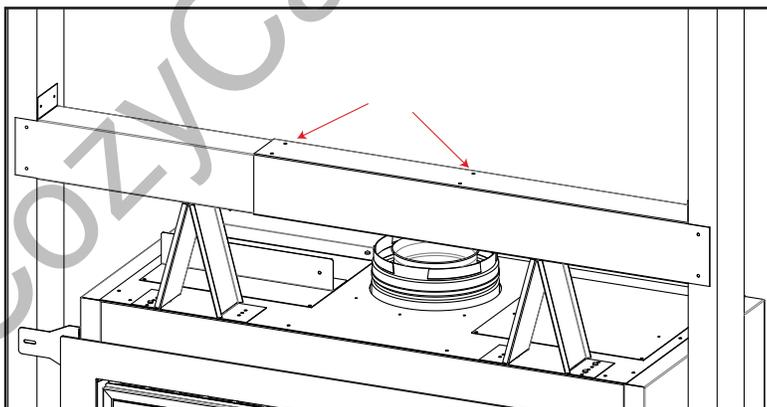

Figure 16: Steel Stud Installation
- Using the provided sheetmetal screws, attach the two steel stud pieces together using the labeled holes in Figure 16. This should be done on the top and bottom of the steel stud to ensure its rigidity.